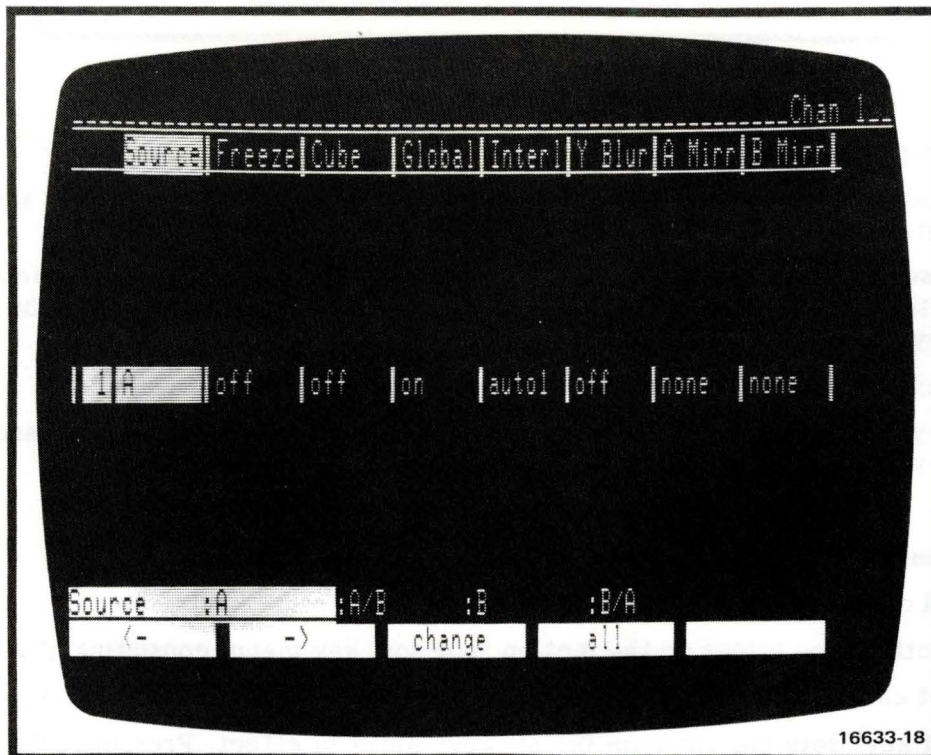

Figure 2-14. Keyframe Flags Menu
- **keyf flags** brings up the keyframe flags menu (see Figure 2-14) and a soft key menu consisting of: